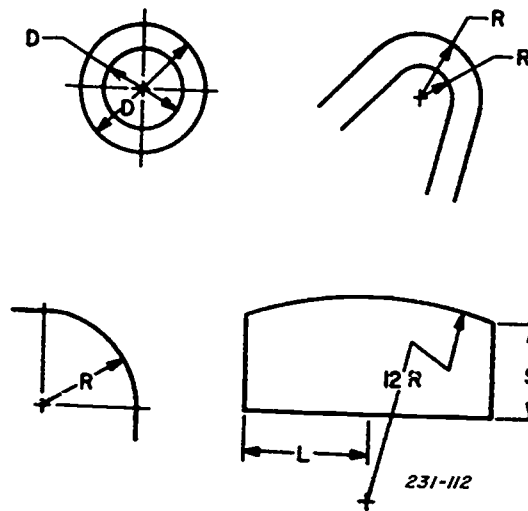

Figure 4-82. Dimensioning circles and arcs.
**Circles and arcs.** The methods of dimensioning circles and arcs are shown in figure 4-82. For a circle the diameter is the essential dimension. When a series of concentric circles are dimensioned on their circular view, the dimension values should always read from the same direction, if possible.